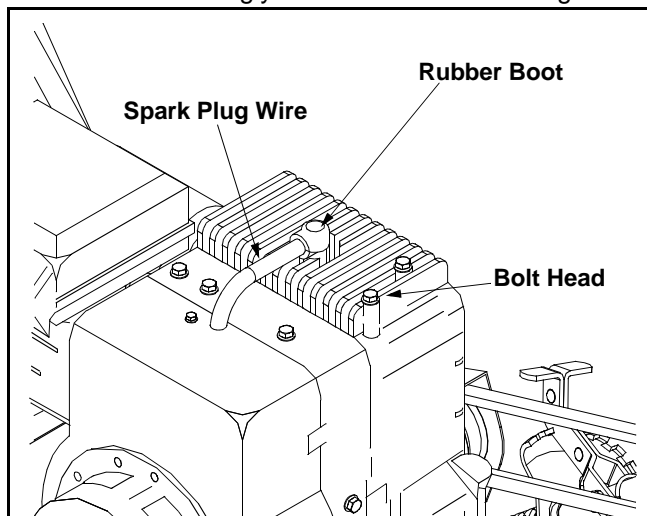

Figure 2
- Disconnect the spark plug wire from the spark plug and ground it on the top of the engine by placing its rubber boot snugly over a bolt head. See Figure 2.
- Disconnect the spark plug wire and ground it as instructed earlier in this section. Refer to Figure 2.
IMPORTANT: Make certain that the engine's spark plug wire is properly grounded as instructed in SECTION 2: Assembling The Edger before storing the edger for its next use. Refer to Figure 2.